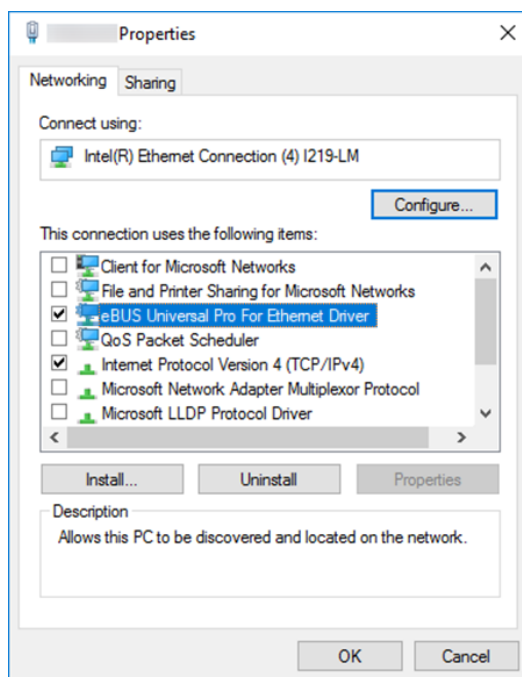

Figure 114: Changing Network Adapter Connections
3. Clear all check boxes except **eBUS Universal Pro for Ethernet Driver** and **Internet Protocol Version 4 (TCP/IPv4)** (Figure 114).